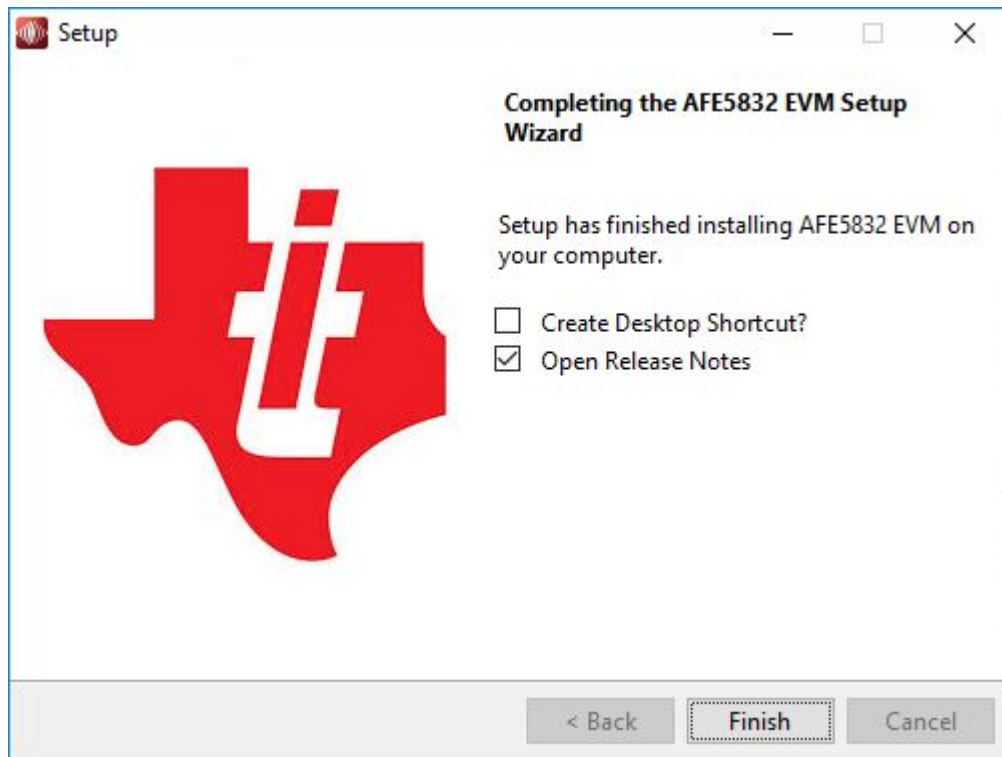

Figure 45. AFE5832 GUI Install (Finished)
14. Press the *Finish* button, as in Figure 45.